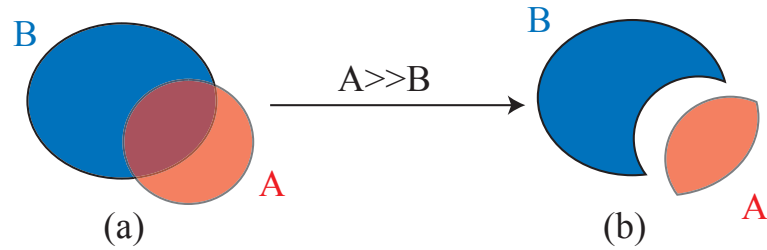

Figure 4.1: Operator \gg (put in). (a) A and B before the action of the operator ; (b) A and B after the action of the operator.
- if A is a normal *Shape_ptr*: a $A \gg B$ modifies both A and B; A becomes $A \cap B$ and B becomes $B \cap A$ (see figure 4.1)
Note that now S and B are new *Shape_ptr*: $S=S \& !B$ (i.e. the sphere without the brick) and $B=S \& B$ (i.e. the intersection of the brick and the sphere) as already mentioned above (see fig. 4.1).